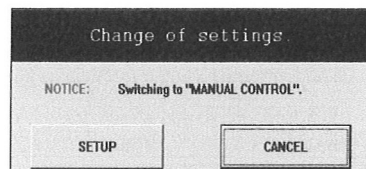

Fig.24
- ④ After filling in all the fields required at ③, click on "SETUP" button. And a message box as shown in Fig. 24 appears in response.
- ⑤ Clicking on "SETUP" at this point changes the previous settings to the new settings just entered. However, the flowmeter output also changes with the changes in settings made. For safety's sake, therefore, in applications where the flowmeter output controls valves or other devices, it is suggested that the affected control loop be switched to manual so as to keep the control loop free from the influence of flowmeter output.